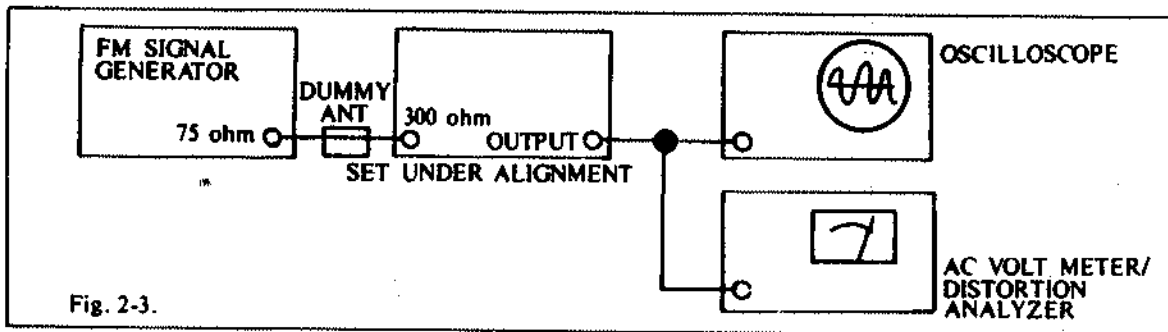

Fig. 2-3.
- Set up the test equipment as Fig.2-3.
- Set the test equipment as Fig. 2-3.